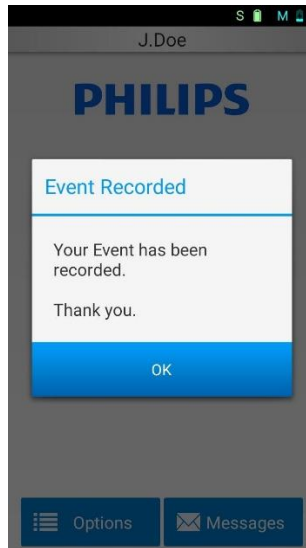

Figure 14-3 Event Recorded screen
- f) A final screen will confirm the event was recorded (see Figure 14-3). Press 'OK' to return to *Home* screen.